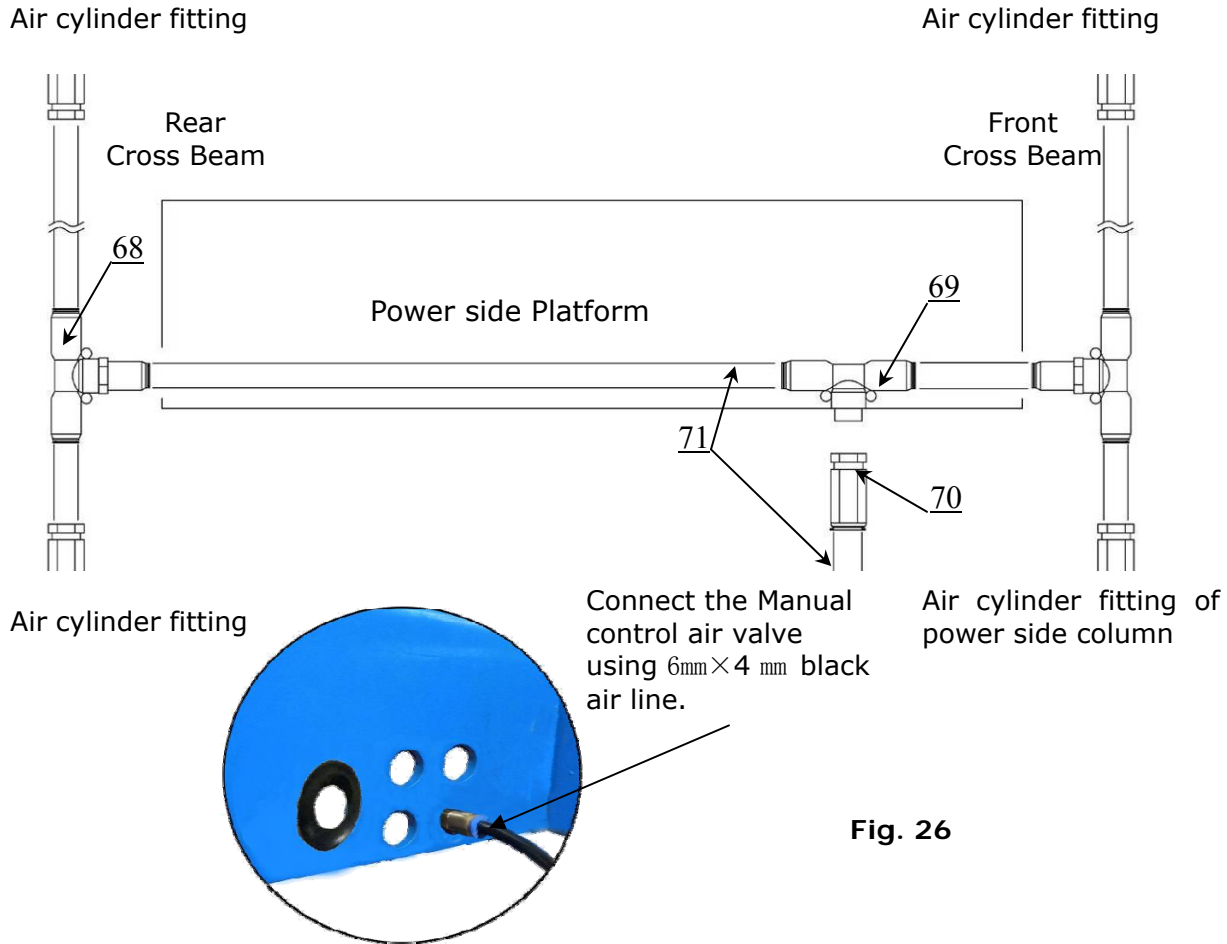

Fig. 26
1. Connect the front and rear Cross Beam air lock cylinders by using 6mm×4mm black air line (See Fig. 26).
2. Connect manual air control valve using 6mm×4mm black air line (See Fig. 26).